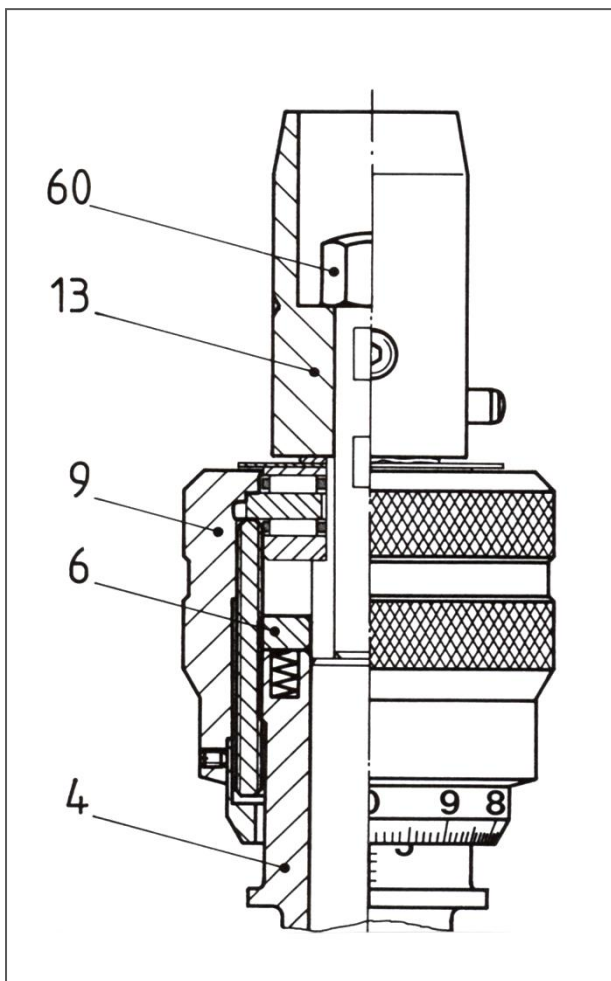

Fig. 37
The advancing device has a spring system, which compensates the play and therefore must not be readjusted (Fig. 37). If the advancing device should be hard to turn, then the thread of the inner threaded ring must be cleaned and lightly greased. The blind nut (60) has to be released and the adapter (13) must be removed. Now unscrew and remove the advancing device (9) from the spindle guide (4). You can now see a threaded ring (6), which is spring mounted on the spindle guide (4). Mark the current position by means of a marking tool and dismount the threaded ring (6). Clean the threaded ring, grease it and place the ring, shifted in one position (shown from the old position), back on the spindle guide. Now screw the advancing device (9) back on again, **using uniform pressure**, and install the adapter (13).